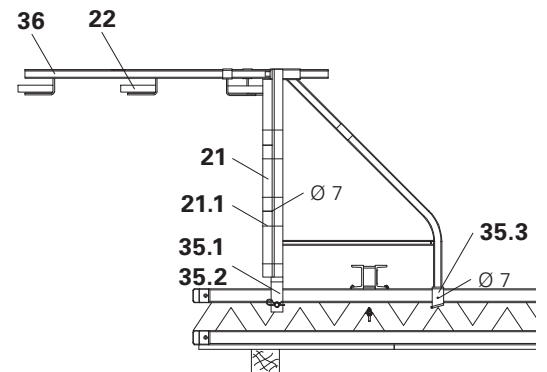

Fig. B2.15
5. Fix planking (21) across complete bracket width from below using Torx 6 x 40 (21.1).
6. Insert Guardrail Post HSGP-2 (36), place guardrail (22) including toe board and fix in position. (Fig. B2.15)